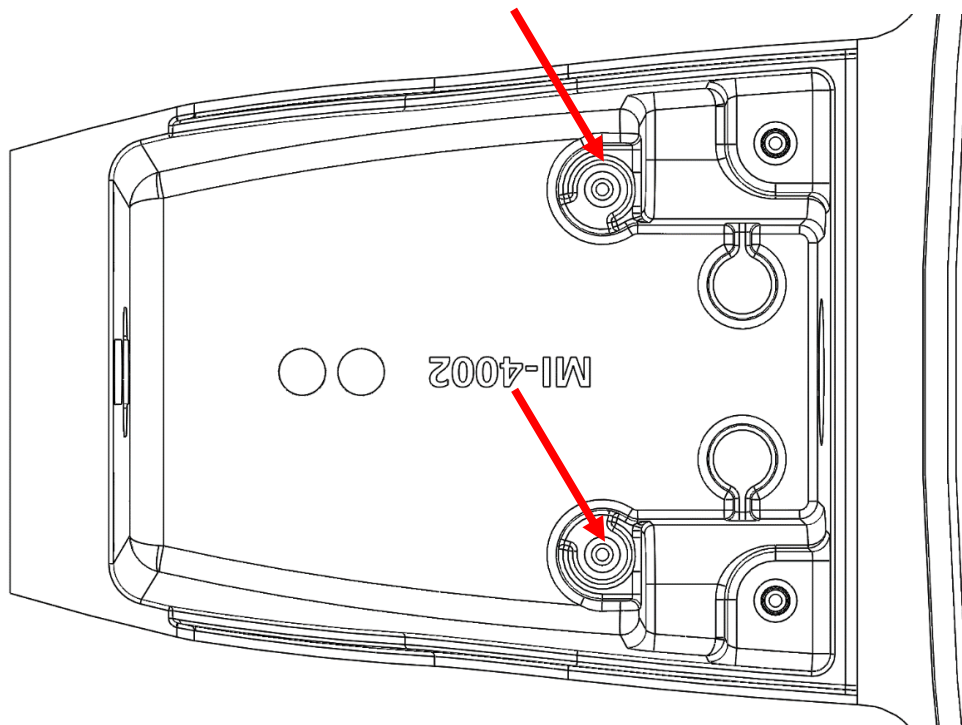

Figure 5 – RSX arm grounding bosses
**Step 4:** If attached, remove the cover from the arm. Using the green ground screw, connect the eyeleted ground wire included with the repair kit to the unused boss on the inside of the arm (see figure 5). One of the two bosses should already be in use to connect the ground tether from the arm to the cover. Do not remove the ground tether. Leave the arm cover disconnected, as it will need to be removed for installation to the pole.